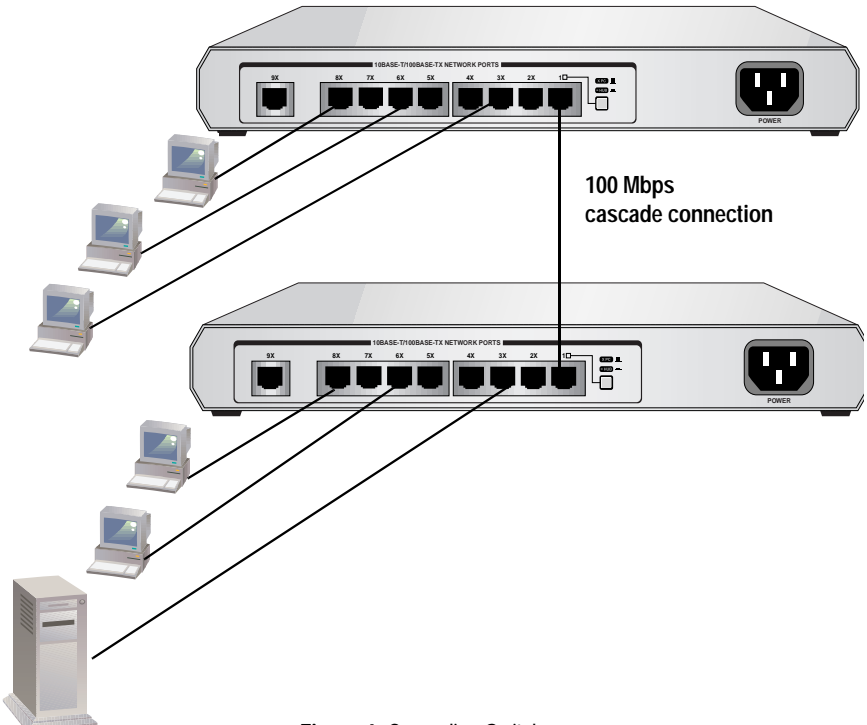

Figure 4 Cascading Switches
2. Use a straight-through UTP RJ45 cable to connect the first switch to the second switch. See Figure 4.